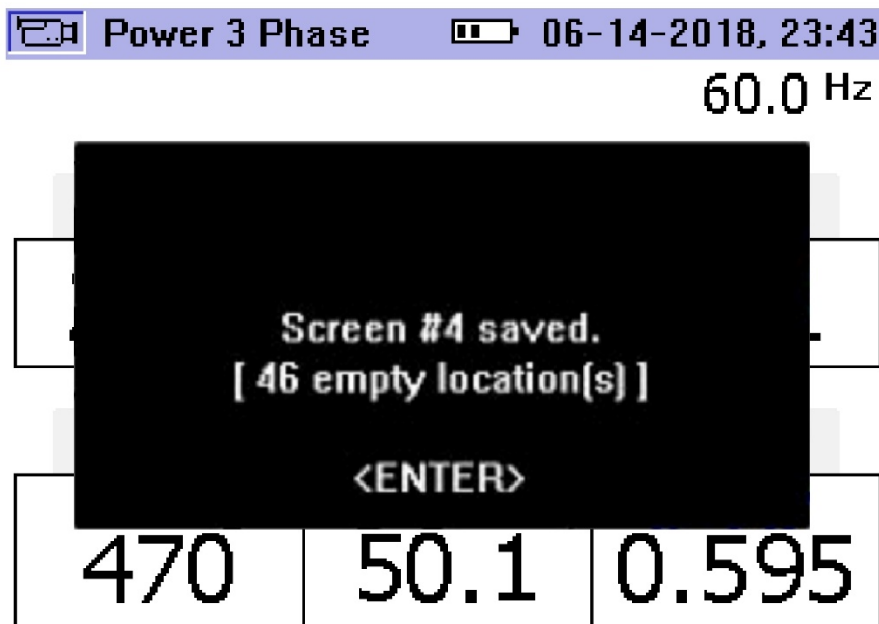

Figure A.2.7: Fluke 345 Screenshot saved screen.
4. Press the “ENTER/SAVE” button, which is boxed out in Figure A.2.1, to initiate the screen saving which will display a screen similar to what is shown in Figure A.2.7.